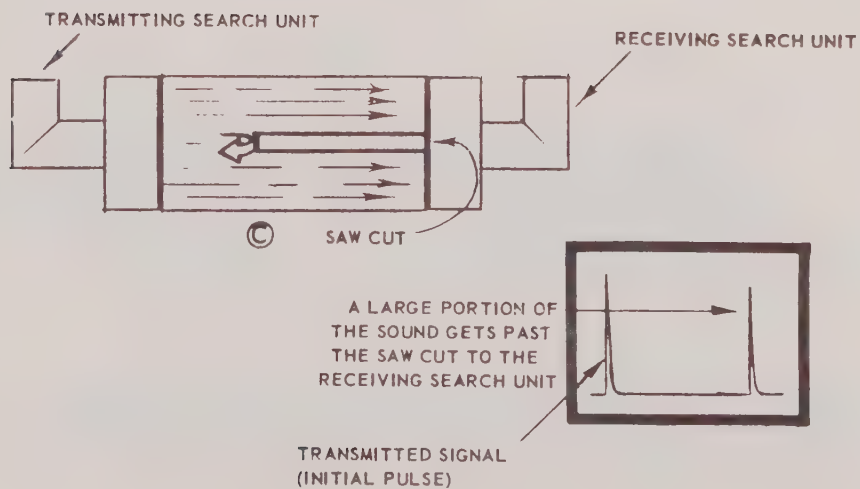

Figure 3-23 Thru Transmission - Position C
- g. Place search units at position C (Figure 3-23). Adjust sweep length until indication appears at right of CRT. Note that the indication from receiving search unit is of greater amplitude than at position B. The saw cut presents less obstructing area scanned from position C than it does when scanned from position B; therefore, it must be borne in mind that even a small loss of amplitude of the received signal may be caused by a large discontinuity if the plane in which it lies is not normal to the sound beam.